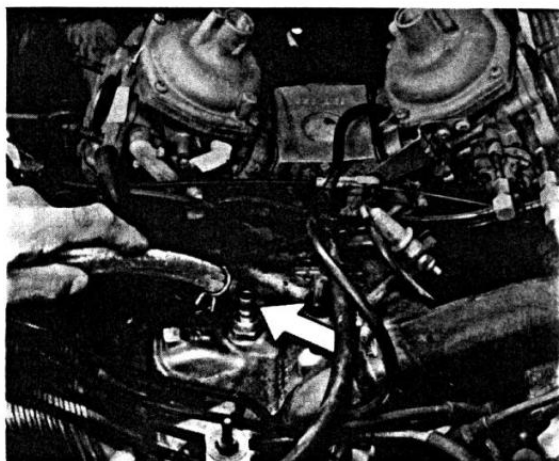

FIG. 90
17. Unseal and refit the brake servo pipe to the manifold. **Fig. 90.**